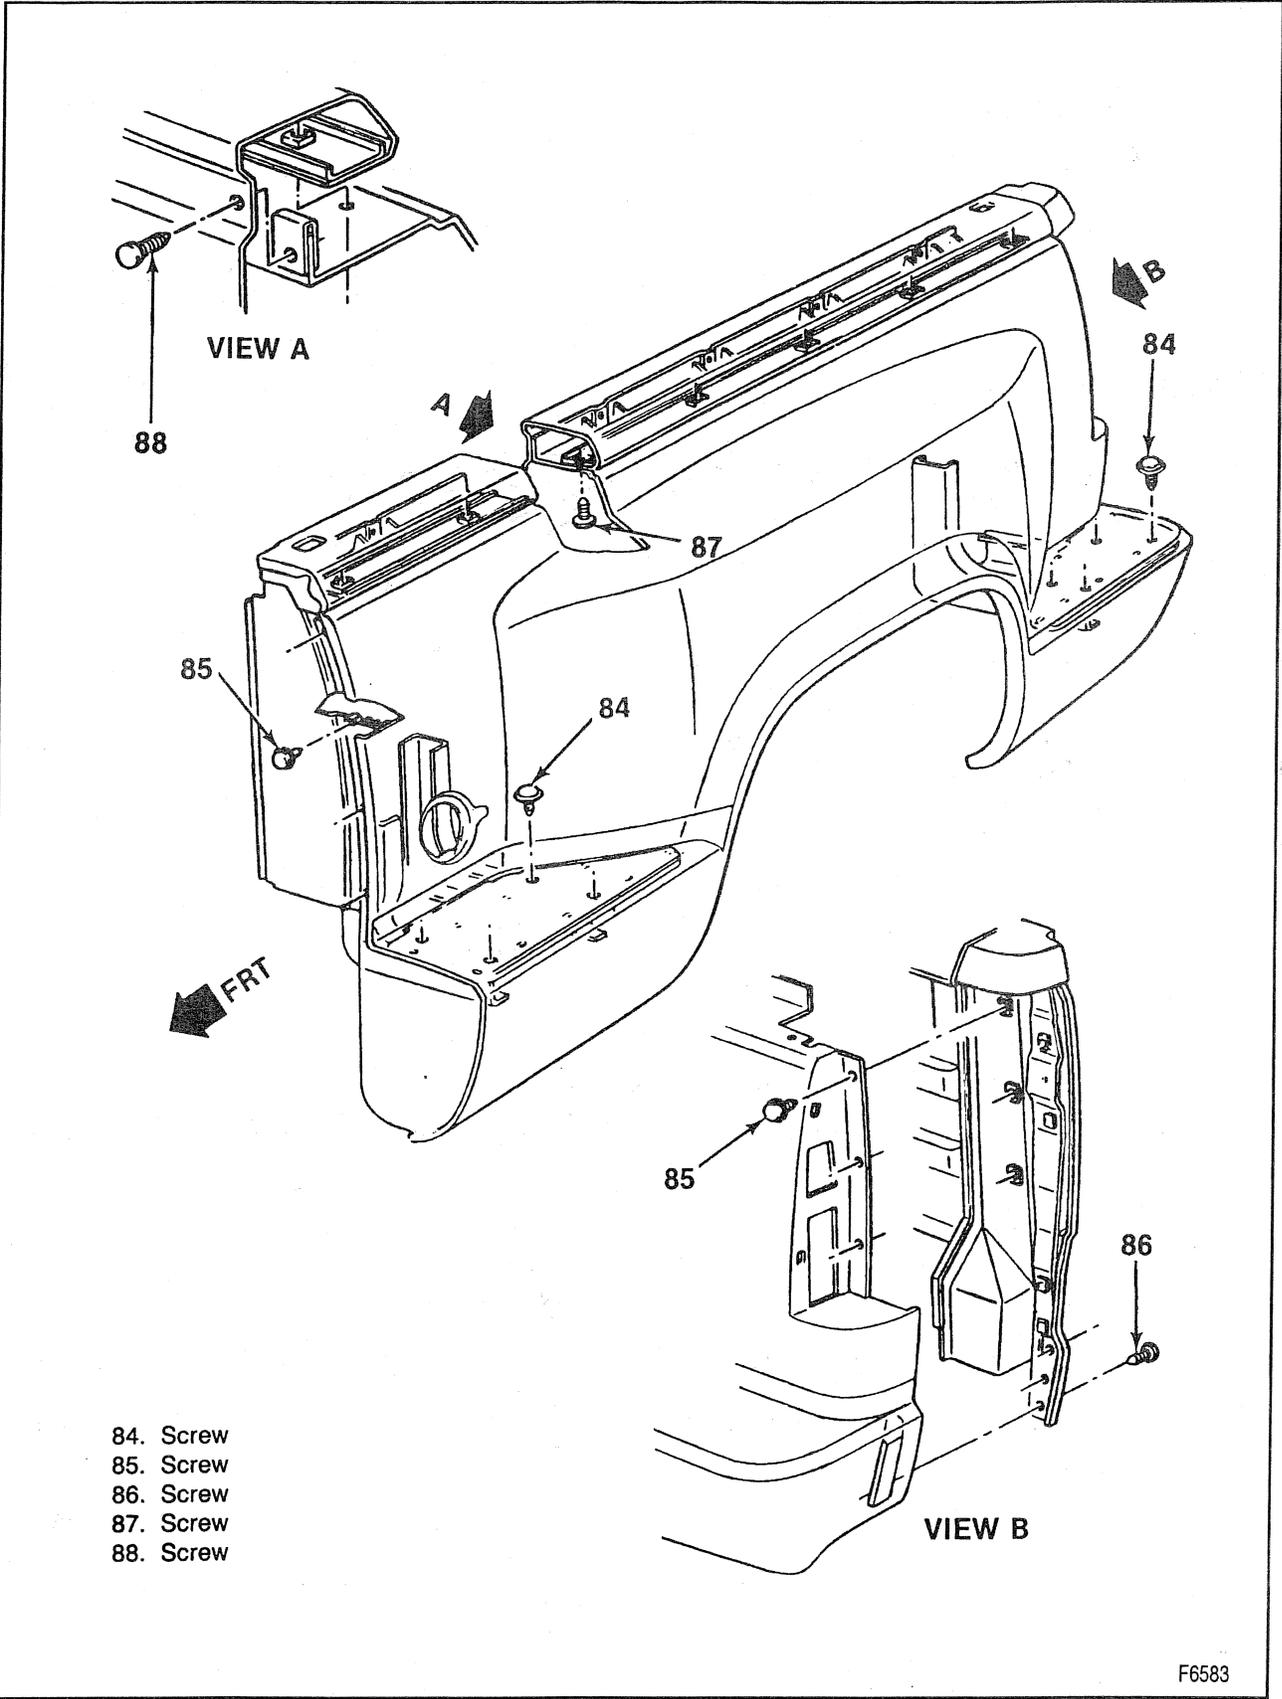

Figure 14—Stepside Fender
4. Fender to support bolts (figure 14).